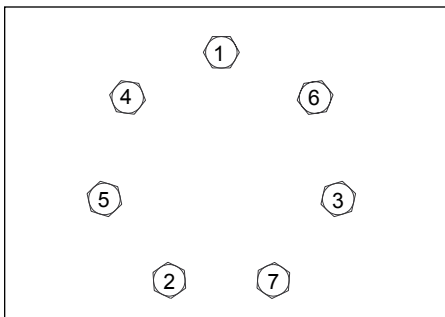

FIGURE 1
- E) Install drive link (11) into end of shaft with tapered end facing up. Place rear housing seal (2) in groove in housing/hub (10). Place body seals (2) in grooves in both sides of rotor assembly (13). Place rotor assembly (13) onto housing/hub (10) with side of rotor assembly with chamfer in splines facing housing (10). Place manifold (14) over rotor assembly (13) with seal groove side up. Install manifold seal (3).
- F) Install the commutator seal (4) into the commutator (15) with the metal side facing up. Use finger pressure to press the seal down flush with the surface of the commutator. Place the commutator container onto the manifold (14) and then place the commutator onto the protruding end of the drive link (11) making sure that the seal side faces up.
- G) Install the remaining body seal (2) in the groove in the face of the endcover (18). Install piston spring (17) into endcover (18), then the white backup seal (6) followed by the O-ring seal (5). Lining up the alignment pin on the piston (16) with the hole in the endcover (18), press piston (16) into the endcover (18). While holding the piston (16) in the endcover, lower the endcover assembly onto the commutator assembly (15). Check to make sure that the endcover ports are in their original position.
- H) Install the seven assembly bolts (19) and pre-torque to 13.6 Nm [10 ft. lb.]. Final torque all bolts to 69.8 ± 7.5 Nm [51.5 ± 5.5 ft. lb.] using the bolt torque sequence shown in Figure 1.